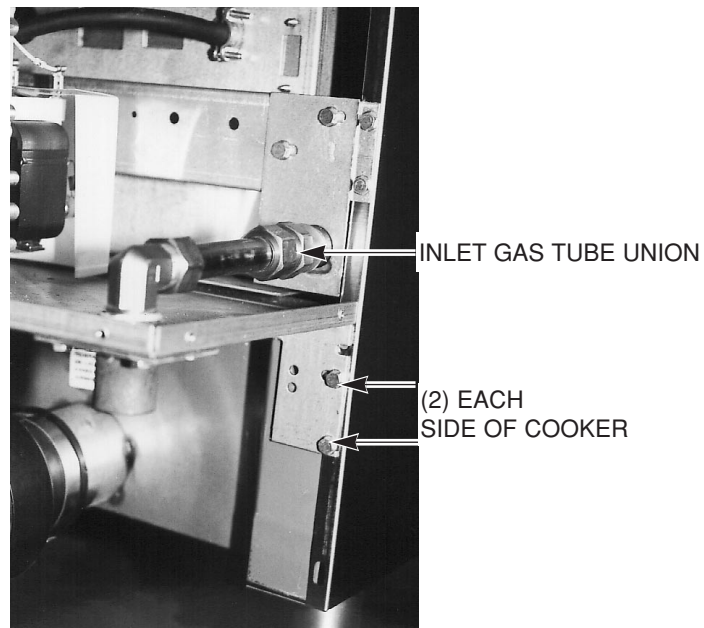

Fig. 75
7. With a $\frac{5}{16}$ " socket and a wrench, disconnect the electric supply cord holding strap(s). (Fig. 75)